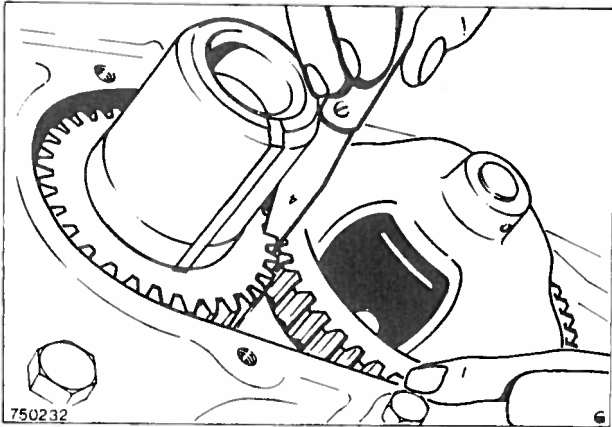

Fig. 11 Checking the Oil Pump Gear Backlash
3. Using feeler blades, check the backlash between the crankshaft and oil pump gears. Fig. 11. Turn the crankshaft clockwise through 180°. Check the gear backlash again in this position. If the backlash exceeds the specified limits, either one or both gears must be replaced.